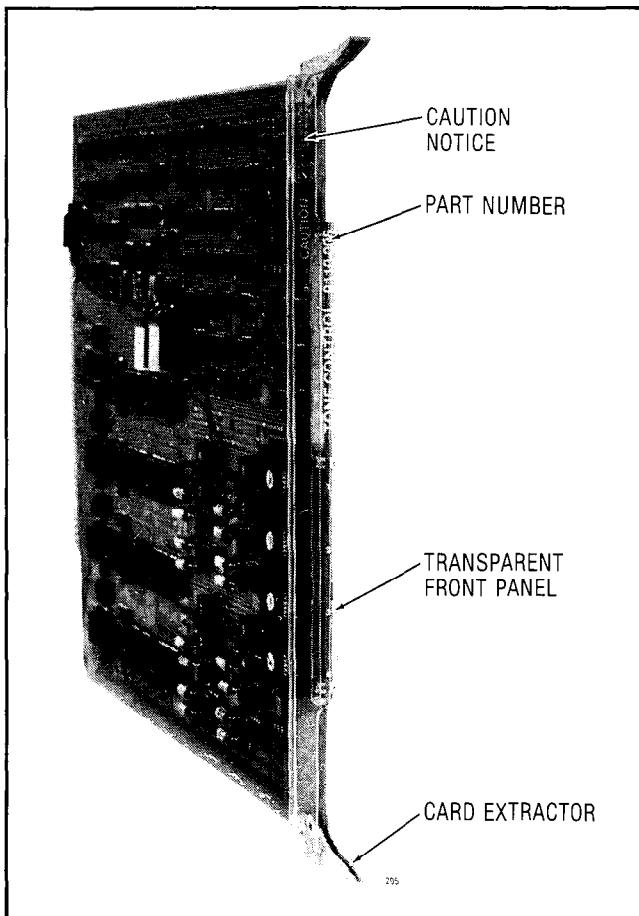

Fig. 2-4 Typical Printed Circuit Card
2.14 All circuit cards (Fig. 2-4) within the SX-100 are identical in construction and consist of a fiberglass board with printed wiring patterns on both of its faces. Riveted to the front of each board is a transparent faceplate which allows the LEDs mounted on the front of the boards to be easily seen. The two color-coded card extractors located at the top and bottom of the faceplate identify the card position within a shelf and ensure that the card is seated correctly in the backplane connector.